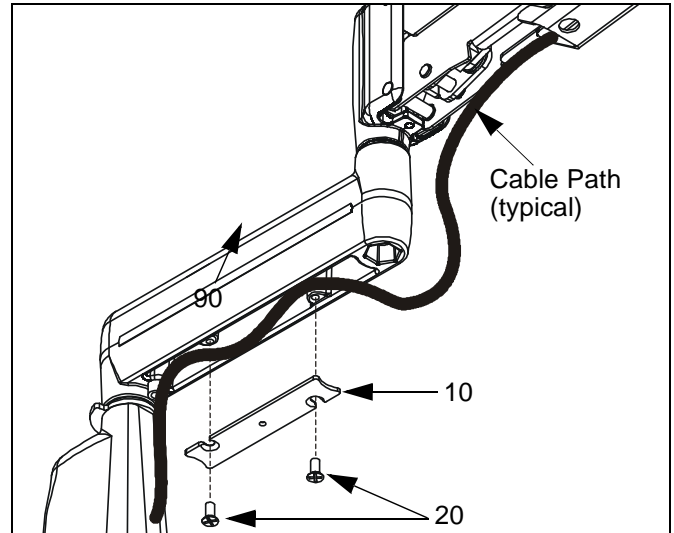

Figure 23: Static Arm - Cable Path
- Carefully insert cables in cavity located in lower portion of static mount arm (See Figure 23).
- Using Phillips screwdriver, install cover (10) with two screws (20).